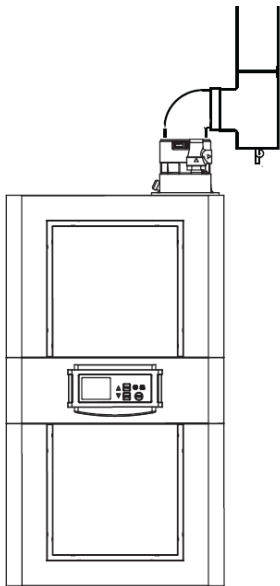

Figure 26. Offset Venting Setup
3. The vent must be offset and condensate from the vent drained away from the unit to prevent damage per Figure 26.